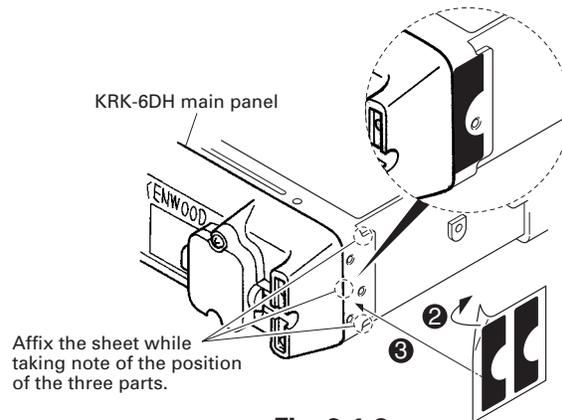

Fig. 3-1-2
4. Affixing the sheet (G11-4379-04) for the waterproof (Fig.3-1-2).
- (1) Remove the covering paper of the sheet (2).
- (2) Affix the sheet while taking note of the position of the three parts as shown in Fig.3-1-2 (3).